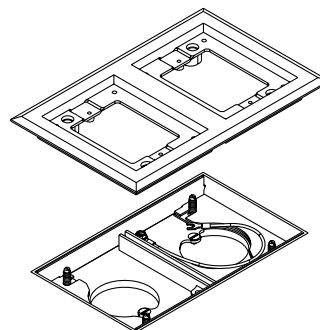

Figure 5
5. Place trim flange over adapter and align the four mounting holes in the flange to the four adjusting screws in the adapter (see Figure 5).